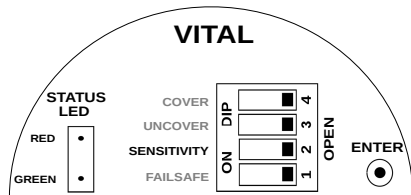

Figure 10: Saving Sensitivity Value
- Sensitivity value is entered, but not saved. To save and test the sensitivity, set the SENSITIVITY switch back to OPEN position as shown in Figure 10.